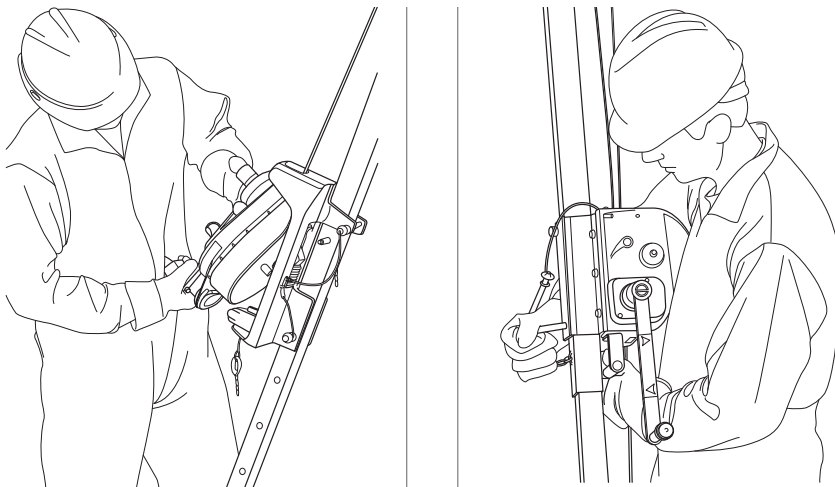

Fig. 8 Installation of Anchorage Hook at Tripod Head
To install the Workman Winch, follow the instructions below and refer to Fig. 8 .
- (4) If using a leg-mounted fall arrester, such as the Workman Rescuer, lay the fall arrester to the right of any other tripod leg and extract enough line to reeve the cable over a split-mount pulley and attach to the tripod head to the right of the leg to which the fall arrester is to be mounted.
- (5) Raise the tripod to the desired working height.
- (6) Insert the winch positive locking pin (H) partially through the tripod leg to which the winch is to be mounted, starting from the left side of the outside face of the leg. See Fig. 8 .
- (7) Mount the winch on the tripod leg placing the slot (I) in the winch mounting bracket over the pin (H) from the previous step.